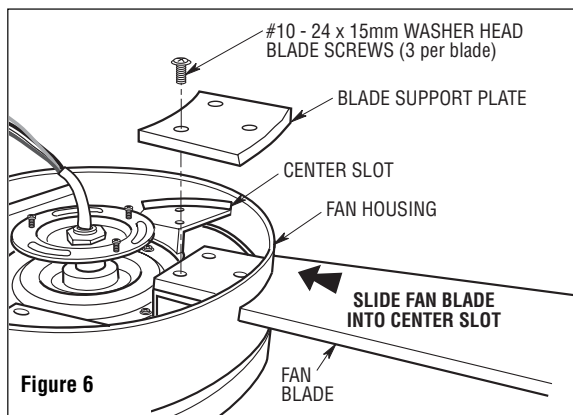

Figure 6
8. Slide blade through center slot in fan housing. Position one blade support plate onto blade. Mount blade to fan housing using one blade support plate and secure using three #10 - 24 x 15mm washer head blade screws (Figure 6).